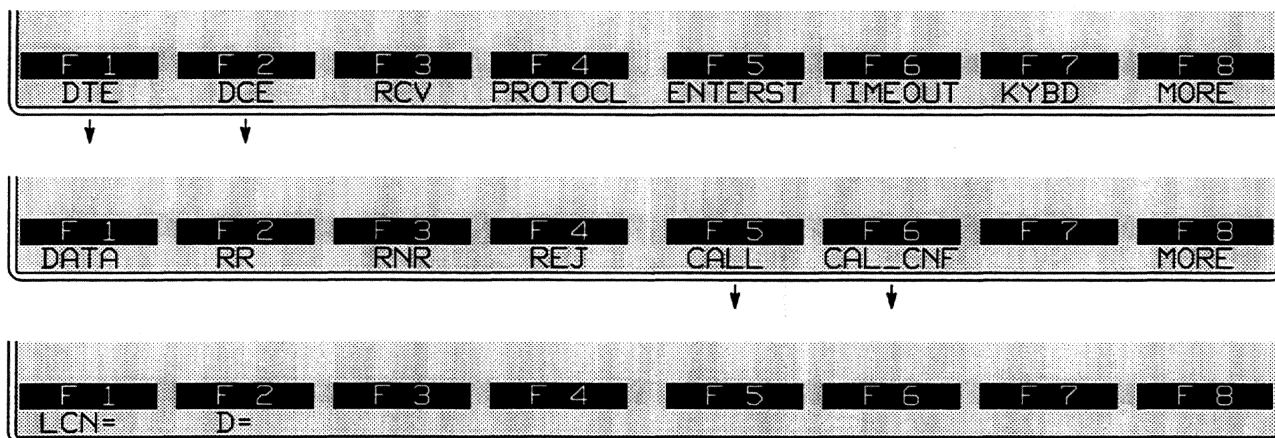
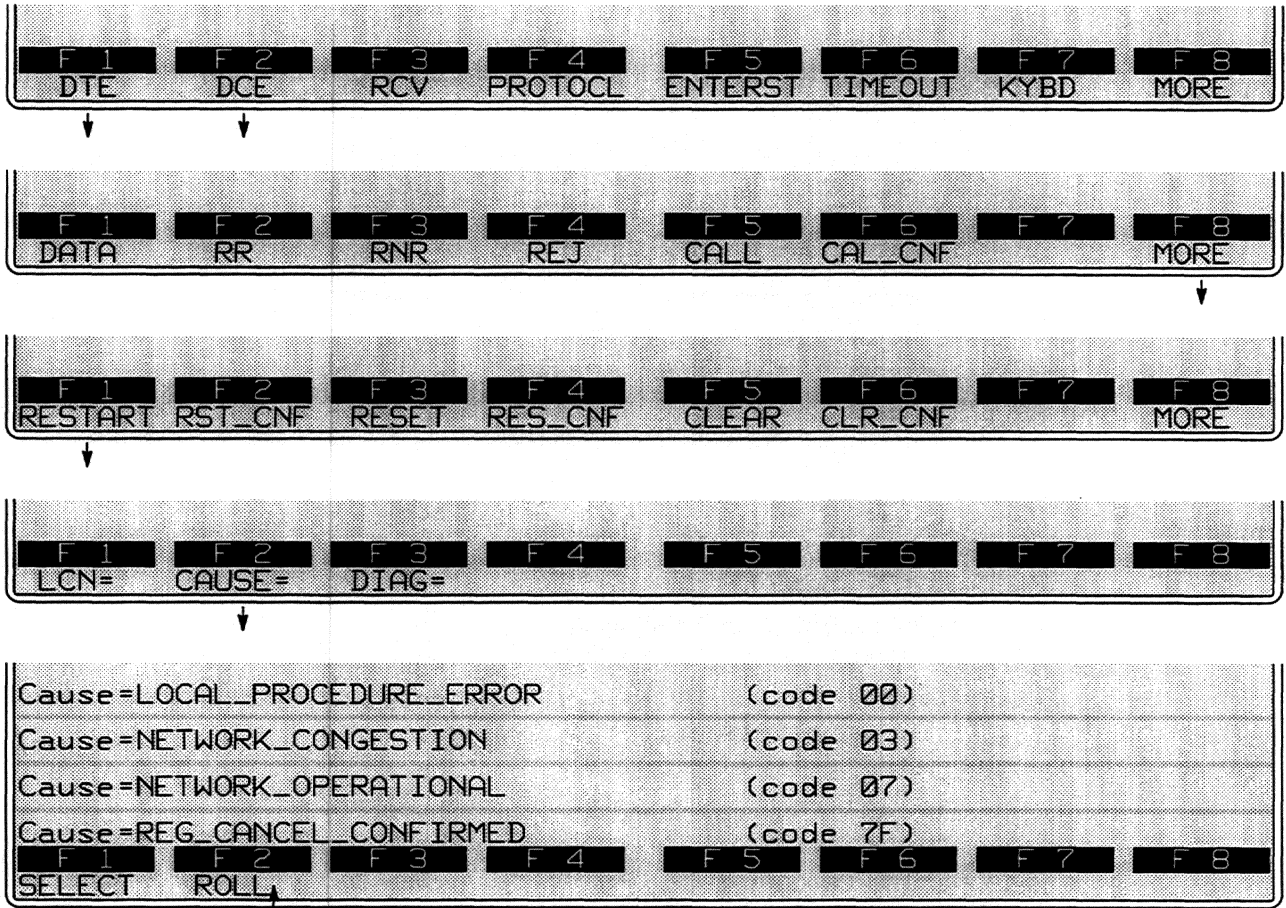

Figure 38-13 Conditions that look for Call and Call Confirm packets also can test for LCN and D-bit values.
Figure 38-14 A Restart packet may be tested for one of these four causes.
All unnumbered—packet conditions may be made specific to a particular LCN. Call and Call Confirm conditions may specify a D—bit value (Figure 38-13). Restart, Reset, Clear, and Registration Confirm conditions may optionally test for causes and diagnostic codes (see Figure 38-14, Figure 38-15, and Figure 38-16). Diagnostic packets (F5 on the bottom rack of softkeys in Figure 38-10) also may specify a diagnostic code.
A D-bit value also may be specified for Call and Call Confirm packets: see Figure 38-13.
1. *Cause.* The names of causes as well as their hexadecimal values are indicated on the softkey-prompt line near the bottom of the Protocol Spreadsheet screen. To specify a particular cause, the user does not have to memorize cause codes or consult a table. The user simply presses [F2], ROLL, and repeats the keystroke to cycle through the list of cause names for a given packet type. Figure 38-14 shows the cycle of causes that pertain to Restart packets. The user presses [F1], SELECT, when the right cause has “rolled” up onto the prompt line. The SELECT softkey writes the current cause onto the spreadsheet screen.